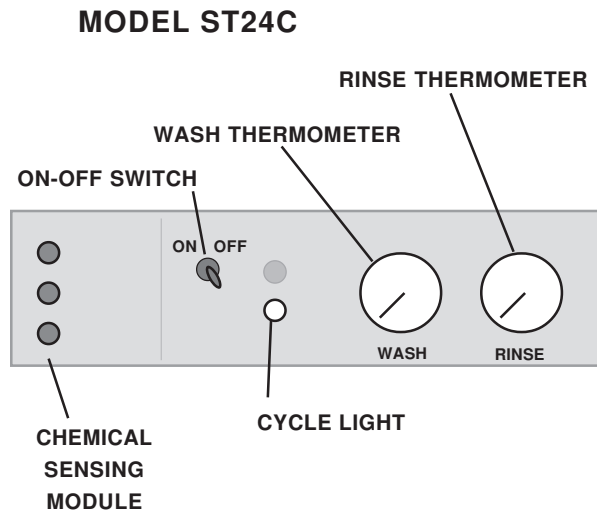

Fig. 2
After electrical and plumbing connections have been made, close the door and turn the On-Off switch (Fig. 2 on page 10) to the on position. The dishwasher must be operated through nine (9) complete cycles (without dishes) to initially charge the sanitizer delivery system.
Thermometers (Figs. 2 and 3 on page 10) are provided for convenience in checking the wash and incoming rinse water temperatures. These temperatures should be monitored occasionally during a cycle to make sure that the dishwasher is operating at or above the proper minimum temperatures.
1. Turn the On-Off switch to the off position (Figs. 2 and 3 on page 10).